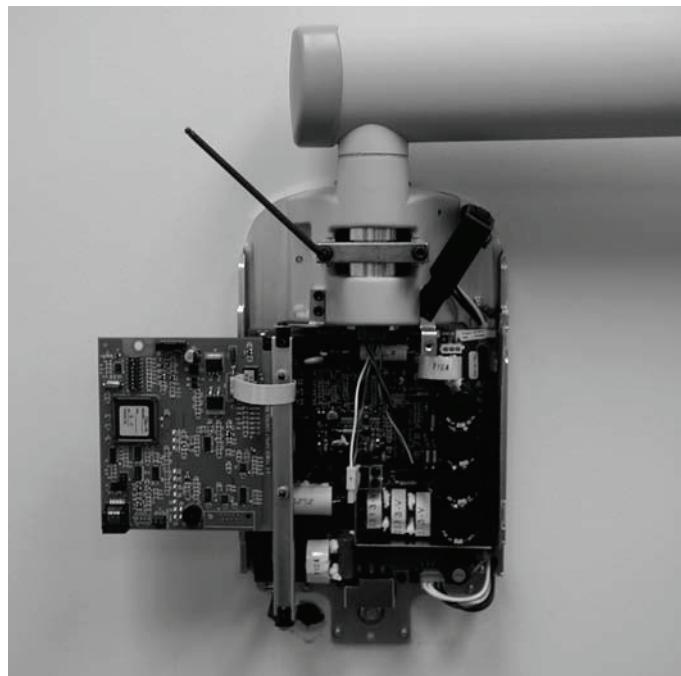

Figure 29
2. Using a 4 mm Allen wrench, as shown in Figure 29, tighten the screws equally to apply adequate braking to the pivot post so that Horizontal Arm begins to move after the Articulating Arm.